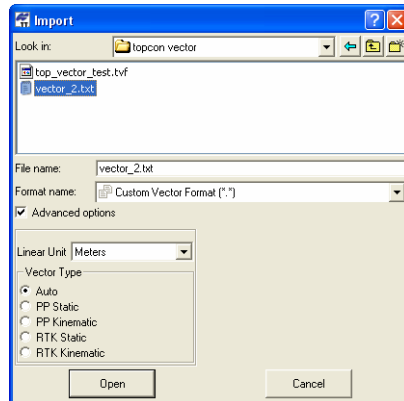

Figure 3-18. Import Custom Vector Format File
5. Click **Open** (or **Save** if exporting) to set custom format properties (Figure 3-18).